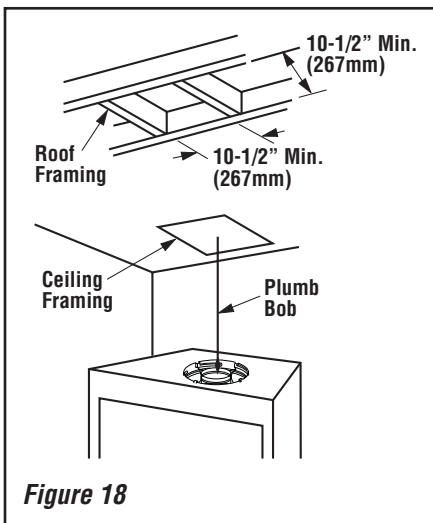

Figure 18
A. Frame ceiling opening - Use a plumb line from the ceiling above the appliance to locate center of the vertical run. Cut and/or frame an opening, 10-1/2" x 10-1/2" (267mm x 267mm) inside dimensions, about this center mark (**Figure 18**).
If the vertical route is to penetrate a ceiling, use plumb line to locate the center above the appliance. Cut and/or frame an opening, 10-1/2" x 10-1/2" (267 mm x 267 mm) inside dimensions, about this center (refer to **Figure 18** on **Page 14**).